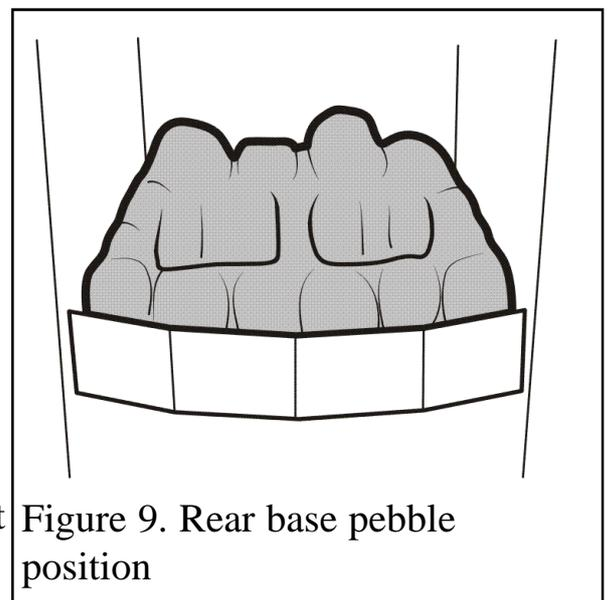

Figure 9. Rear base pebble position
1. Place the base pebble in the firebox. It should rest on the ledges at the rear sides of the burner unit (See figure 9).